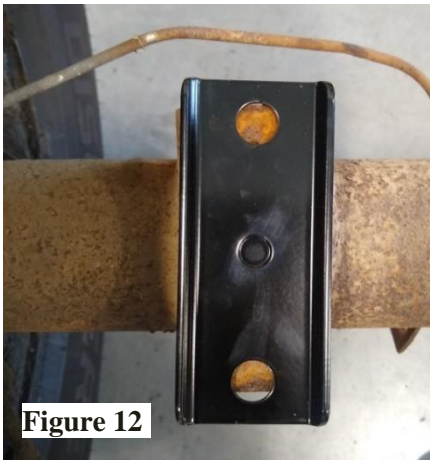
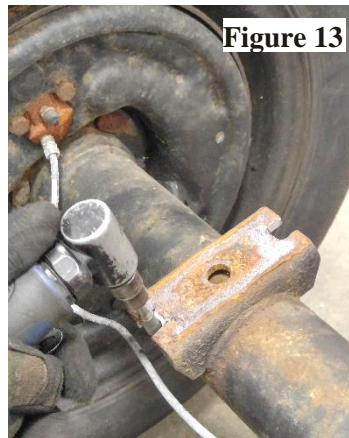

Figure 12
Figure 13
20. Moving to the rear axle you will need to prep the leaf spring perches to mount the QA1 axle plates. Place the QA1 axle plates on top of the axle leaf spring perch. **(Figure 12)** Mark the openings and grind out the leaf spring perches. **(Figure 13 & 14)**